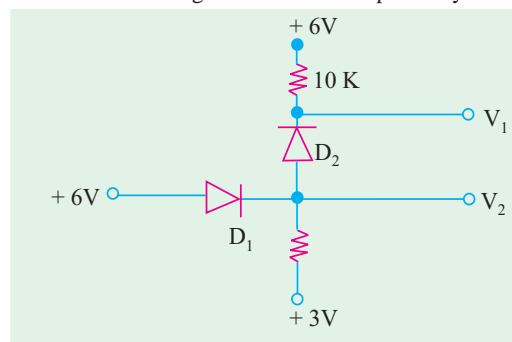

Fig. 52.57
17. The voltages at  $V_1$  and  $V_2$  of the arrangement shown in Fig. 52.57 will be respectively.